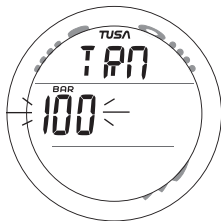

Fig. 45 - SET TURN ALARM
**SET TURN ALARM** (TRT1 only), information includes (Fig. 45):